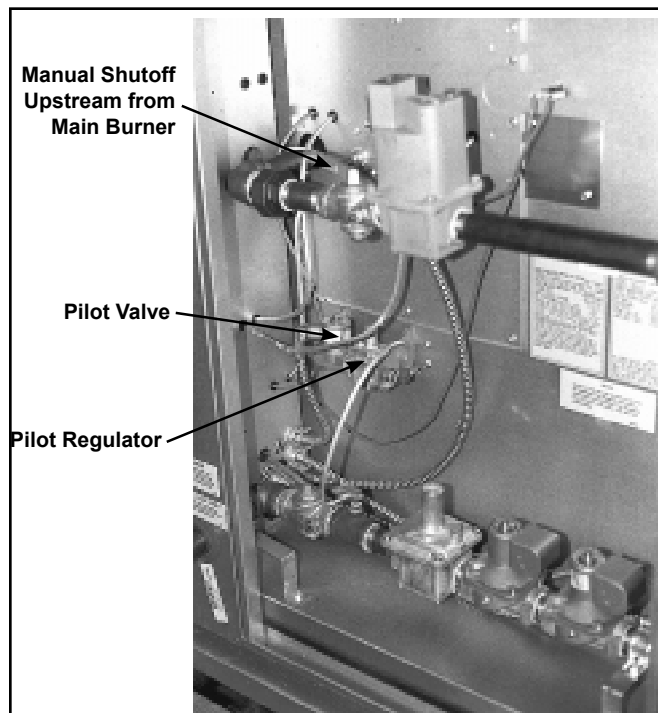

Figure 1C - Burner Control Compartment
- c) Close the manual shutoff valve immediately upstream from the main burner. (see **Figure 1C**)